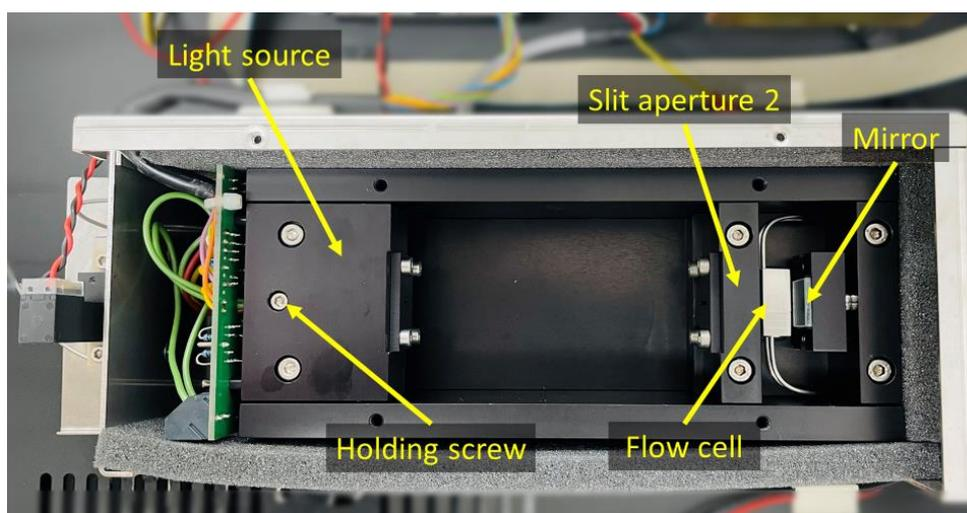

Figure 8. Components of YL9170 RID
2. Loosen the holding screw (see Figure 8) of the light source slightly.